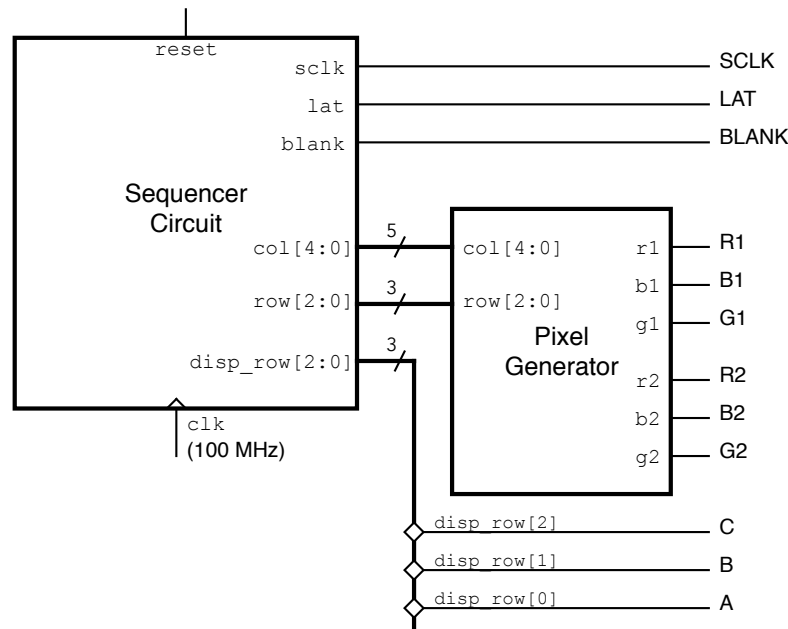

Figure 1 – LED Matrix Controller Organization
(2) provide pixel data to create some kind of useful display. We can implement these two tasks in separate modules as shown in Figure 1.
4. Create a top-level module that contains the sequencer and pixel generator modules that implements the input and output ports shown in Figure 1.